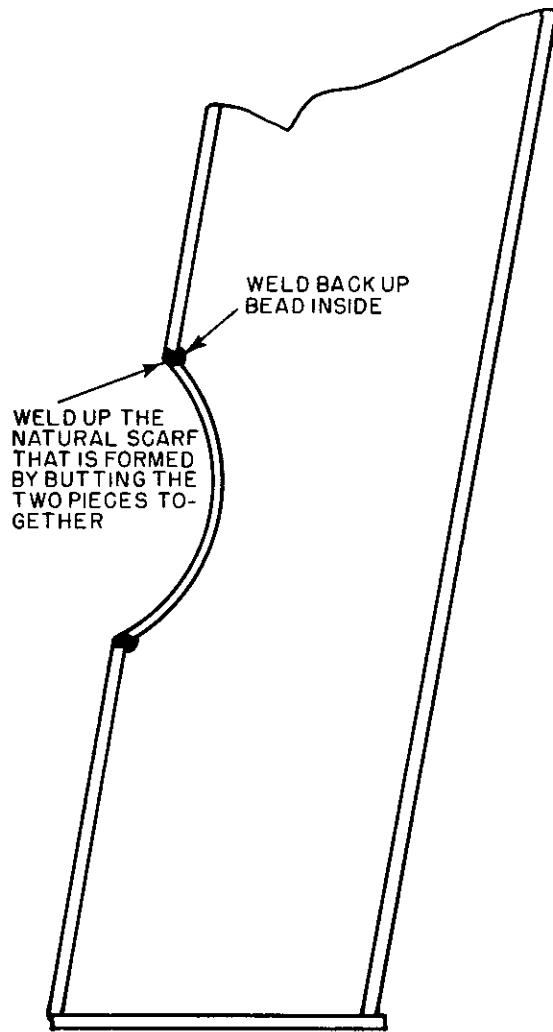

Fig. 4 - Application At Exhaust Tube Plate
11. Weld these plates to the notched out portion of the rear legs, as shown in Fig. 4 to form a gas tight joint.